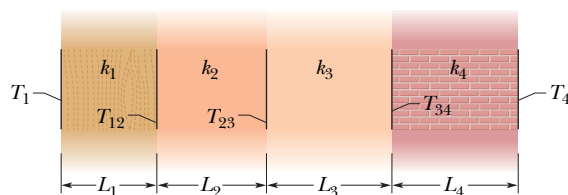

Fig. 18-48 Problem 63.
••63  Figure 18-48 shows (in cross section) a wall consisting of